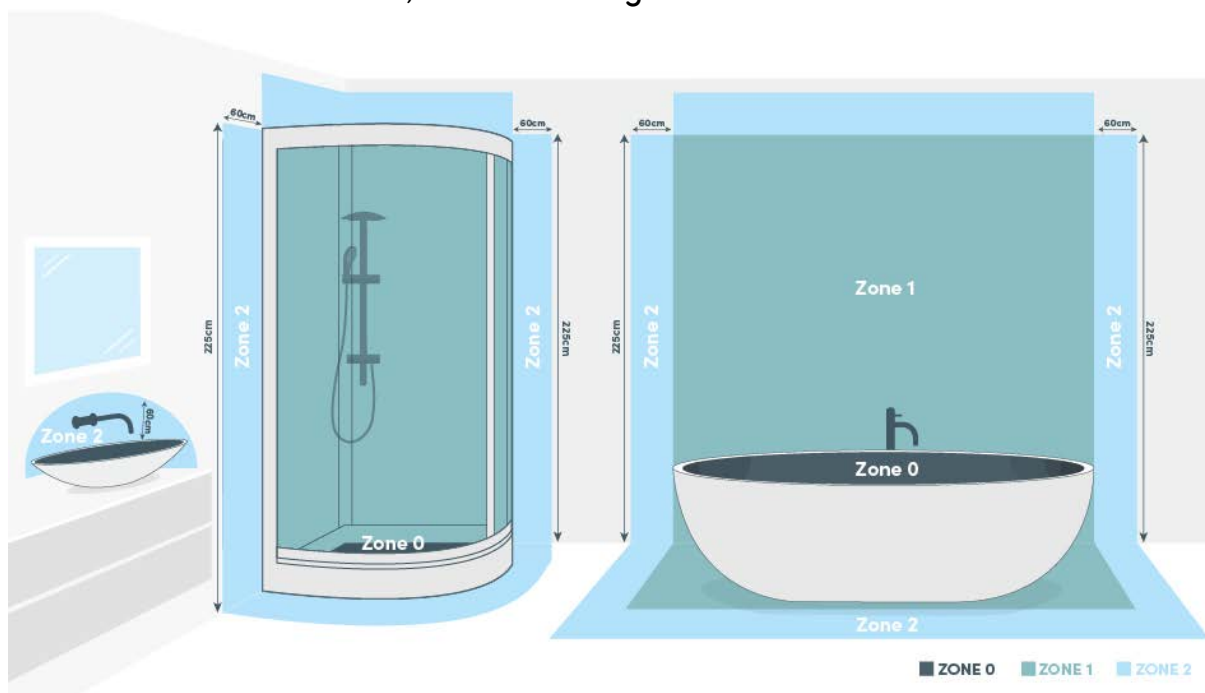

Figure 1 | Bathroom installation zones
- The element can be installed in bathrooms in Zone 2 and 3, as defined by applicable law, subject to any additional regulations concerning electrical installations in wet areas, as shown in **Figure 1**.